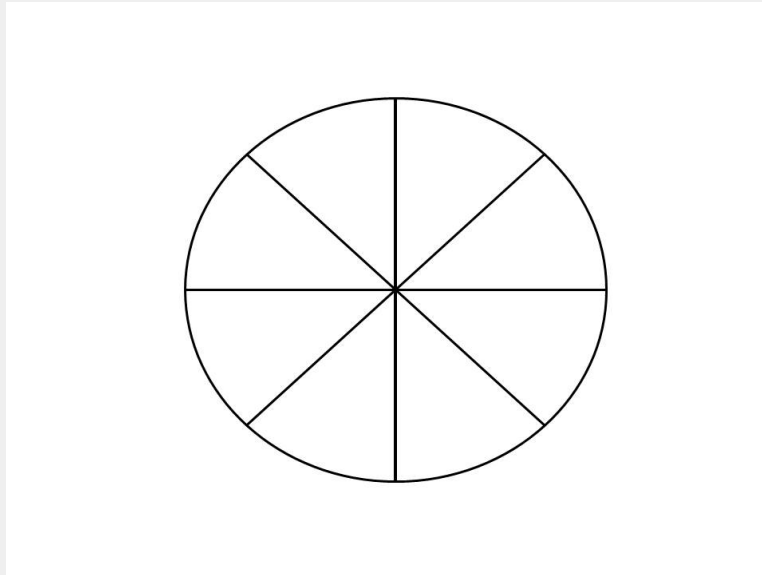

Figure 3.4. Petri plate divided into eight equal sections.
- f. Divide a petri plate into 8 sections by drawing 4 lines across the plate (Figure 3.4). Label each section with a dilution name.